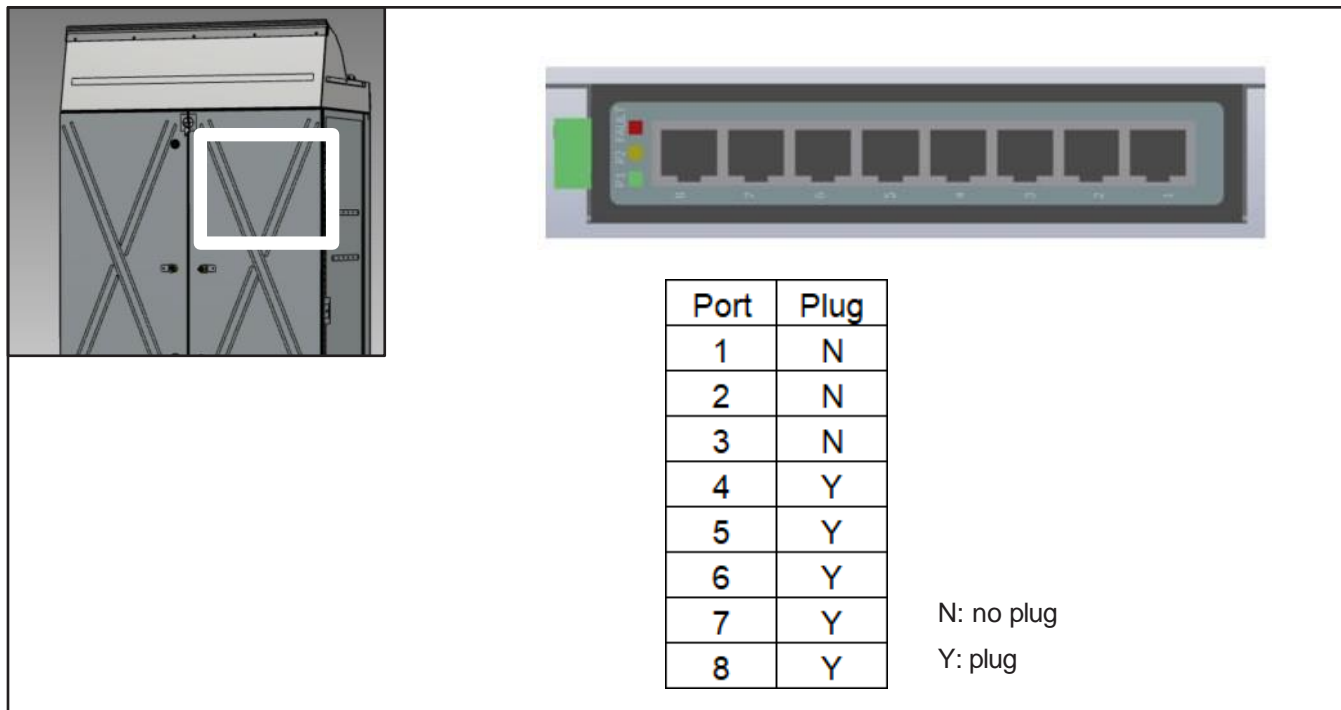

Figure 2 - Position of Cavity Plugs for the Aaxeon Ethernet Switch
- 1.5. Locate the Ethernet switch and install 5 new cavity plugs N109970 as shown in the Figure 2. Note: if there is already cavity plugs, remove and install new ones.